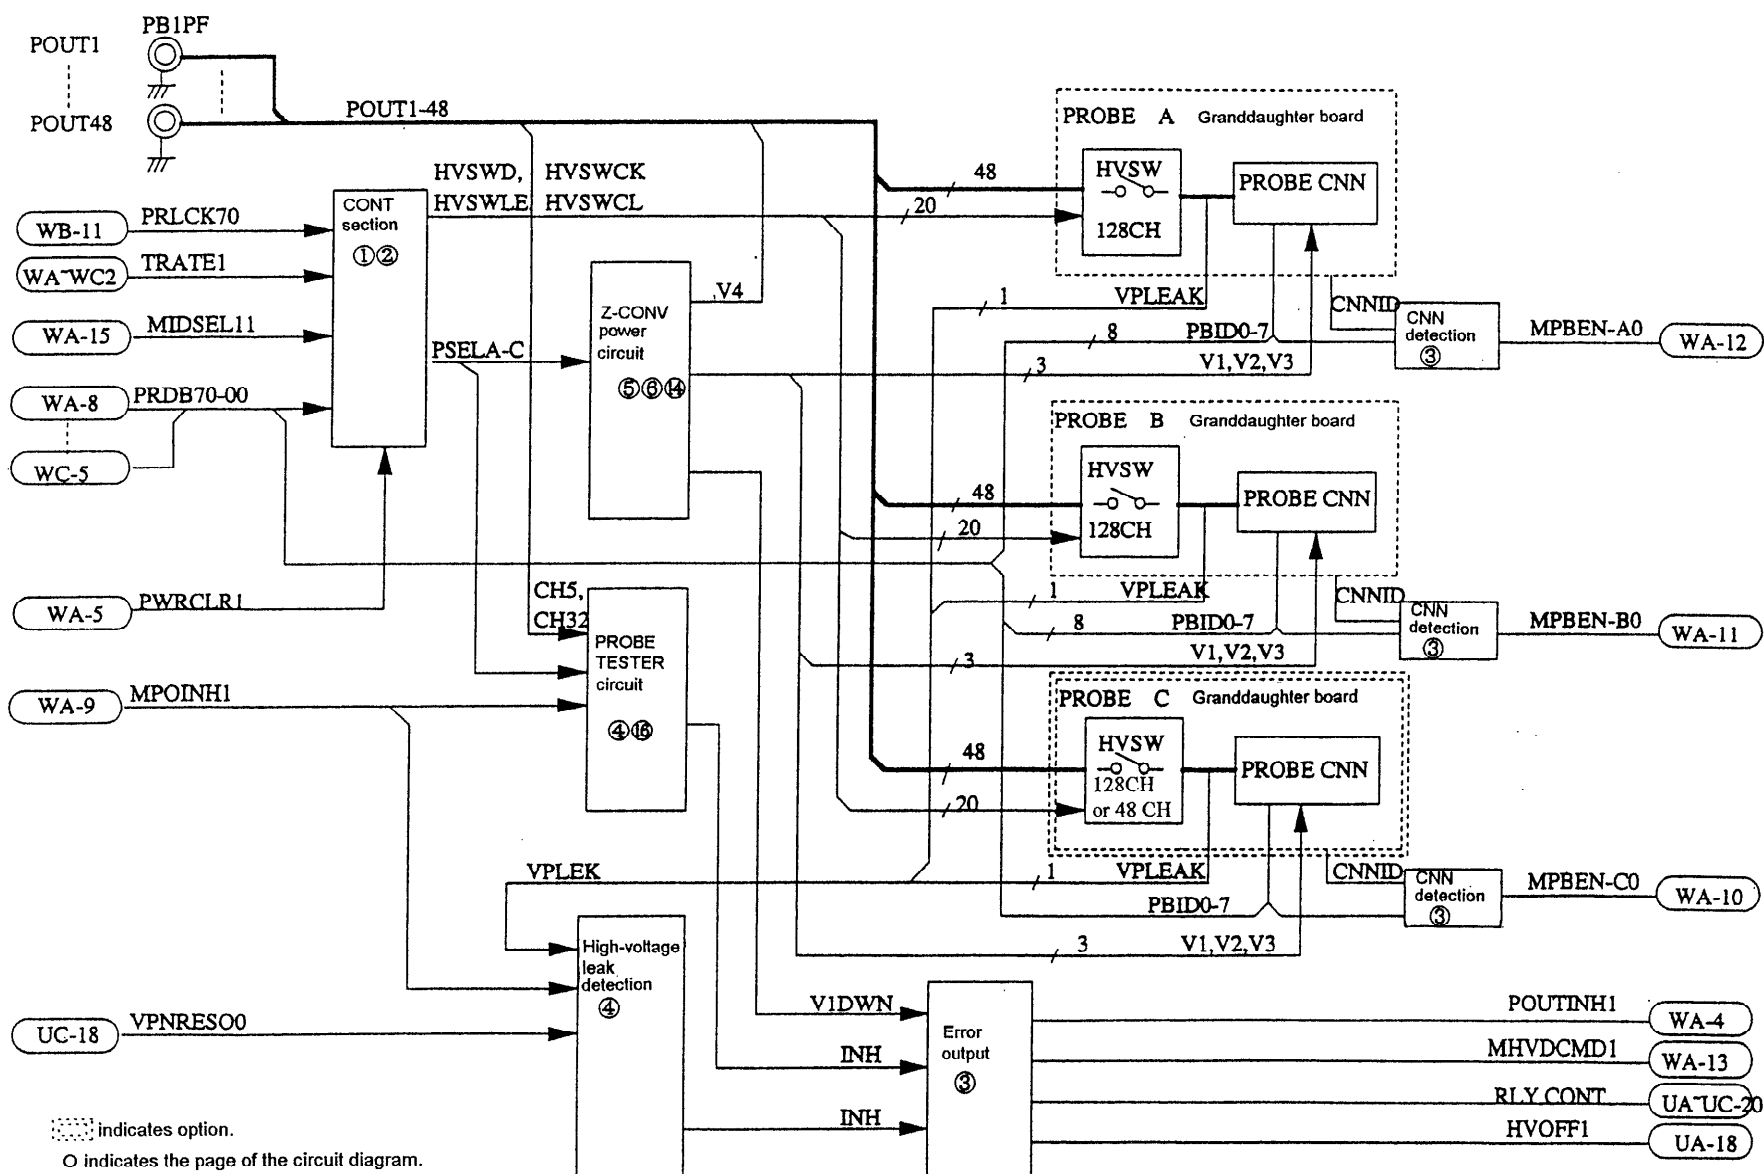

Figure 3.1-2 Block diagram for the PROBE SELECTOR
(1) Outline
(2) Figure 3.1-2 shows a block diagram.